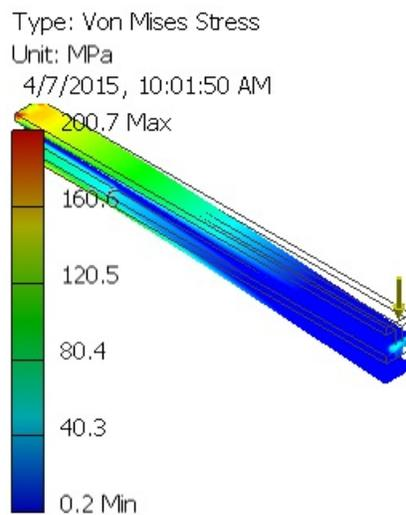

Figure 18-53 The resultant model with von Mises contour
2. Choose the **Run** button from the **Simulate** dialog box; the solving procedure starts and the Von Mises stress contour is displayed in the drawing area, as shown in Figure 18-53.